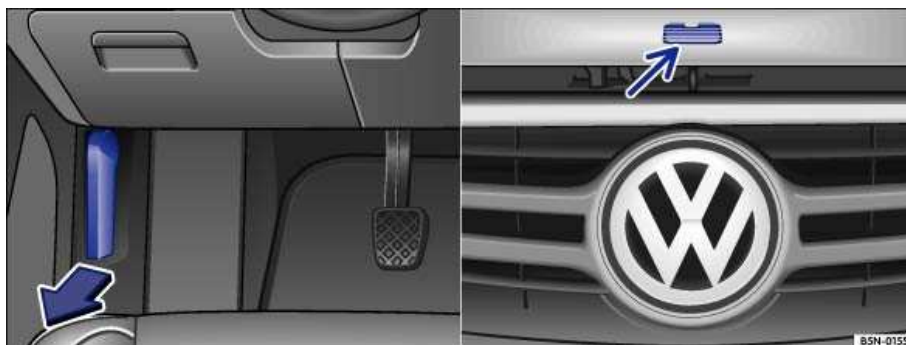

Fig. 4 Section of the driver's side footwell and from the radiator grille: Unlocking and opening the engine hood.
- Pull the inside hood release in the direction of the arrow ⇒ Fig. 4. The hood is released from its latch by a spring mechanism ⇒ ⚠.
- Pull the engine hood release lever ⇒ Fig. 4 (arrow) and open the engine hood.